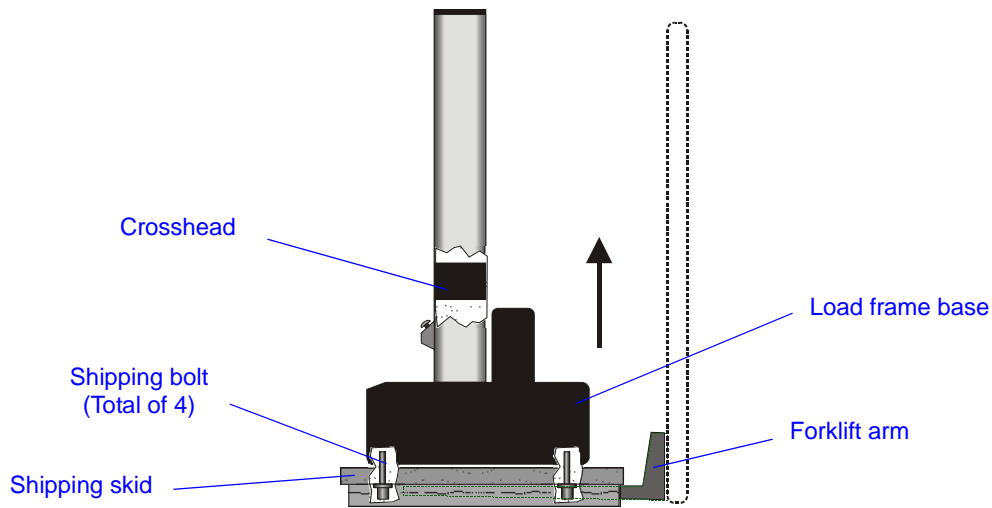

Figure 3-2. Lifting the Frame from the Base
- Frame Base method - Using a forklift to lift the upright load frame from underneath the base with the shipping skid still attached. Refer to Figure 3-2 on page 3-9.
2. Carefully insert the forks under the shipping skid as shown in Figure 3-2 on page 3-9.